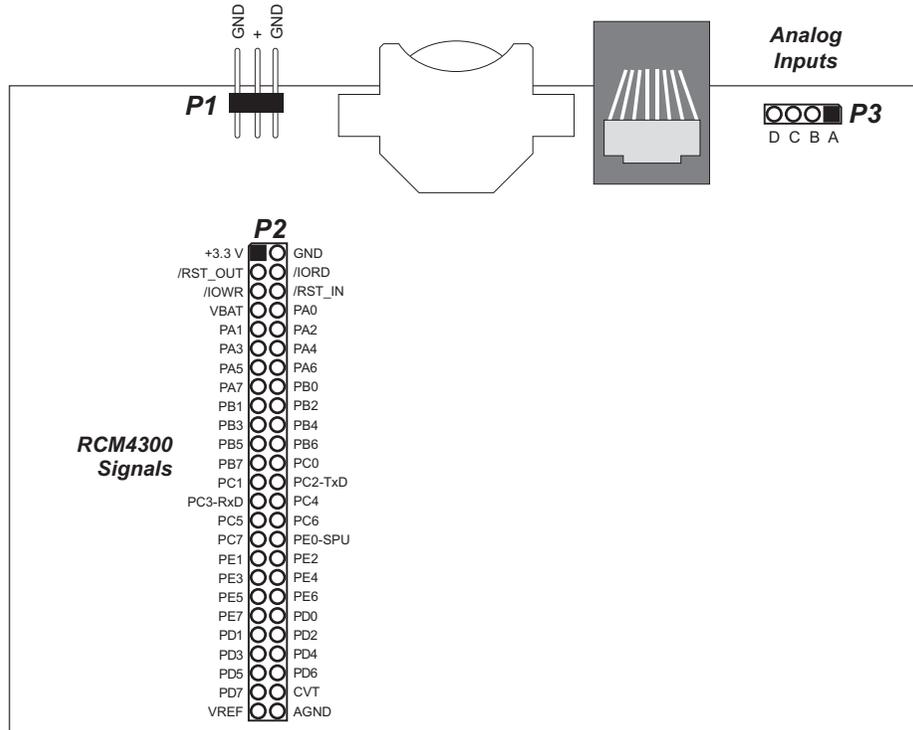

Figure 2. Prototyping Board Pinout
- **Module Extension Header**—The complete pin set of the RCM4300 module is duplicated at header location P2. Developers can solder wires directly into the appropriate holes, or, for more flexible development, a 2 × 25 header strip with a 0.1" pitch can be soldered into place. See Figure 2 for the header pinouts.
The pinouts for the Prototyping Board header interfaces are shown in Figure 2.